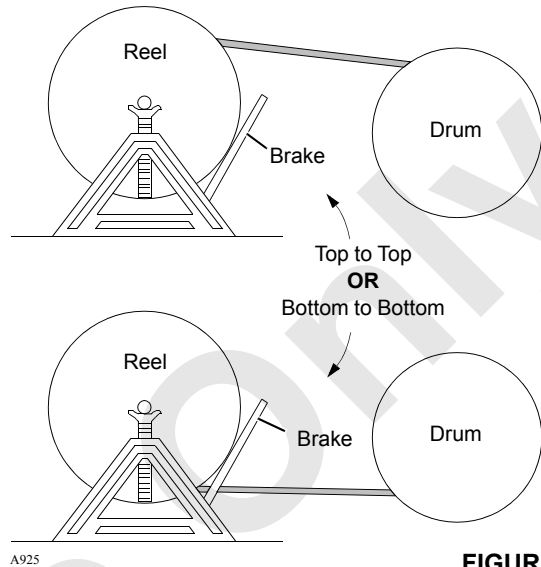

FIGURE 4-50
2. Provide a brake at shipping reel (see Figure 4-50) so wire rope can be wound tightly onto drum.
3. Avoid a reverse bend when winding wire rope onto drum: wind from top of reel to top of drum or from bottom of reel to bottom of drum as shown in Figure 4-50.